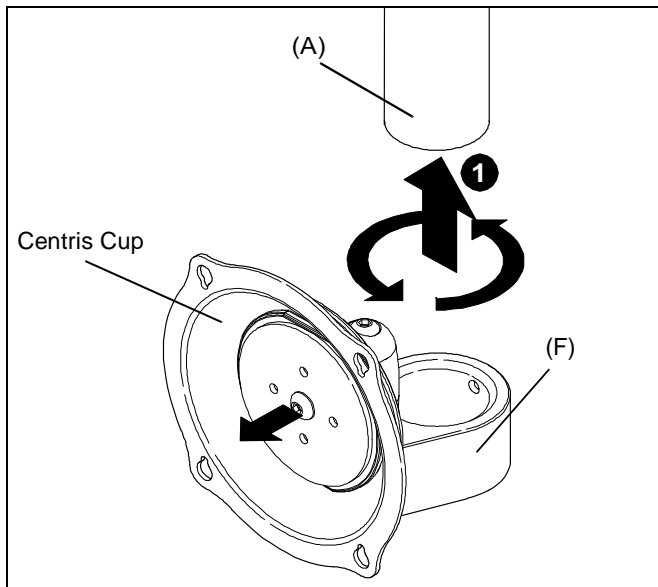

Figure 7
1. Thread head assembly (F) onto adjustment column (A) until hand tight. (See Figure 7)
2. Adjust head assembly (F) position until Centris cup is facing the desired position of the display. (See Figure 7)